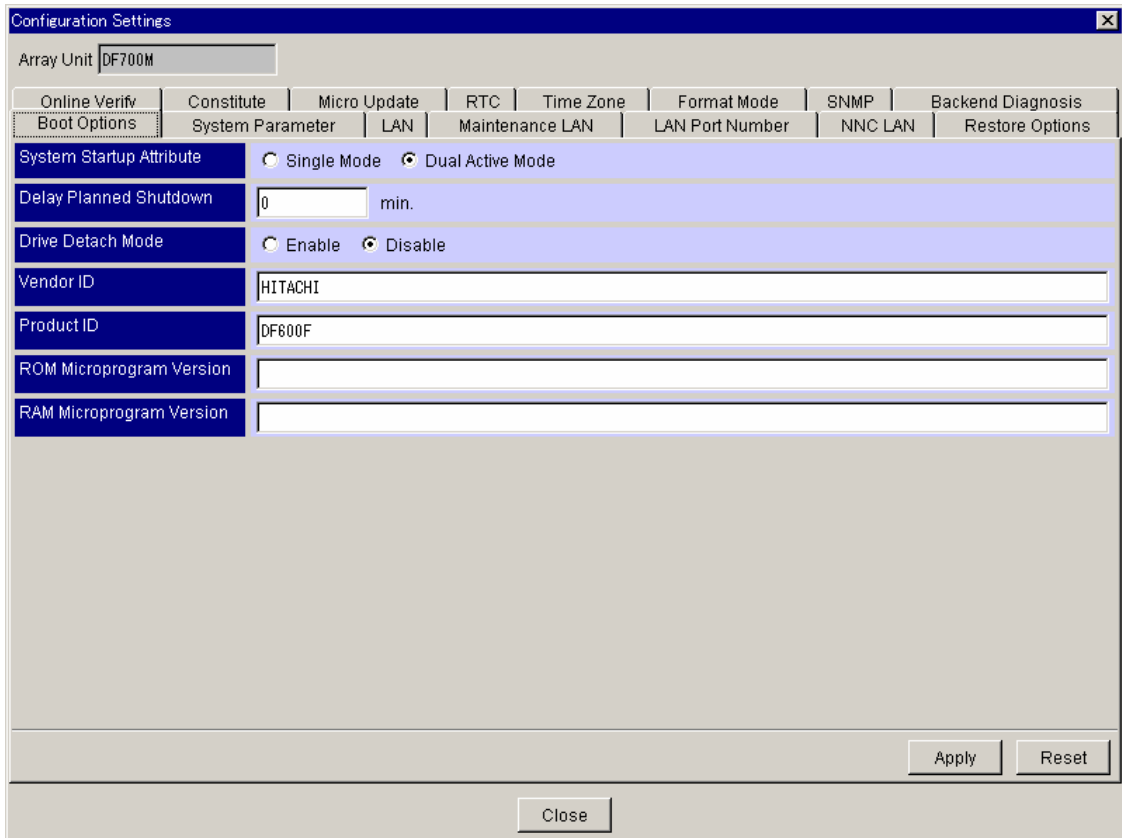

Figure 5.20 Setting Boot Options
3. Click the **Boot Options** tab (see Figure 5.20). For a detailed description of the **Boot Options** tab, refer to section 5.1.1.